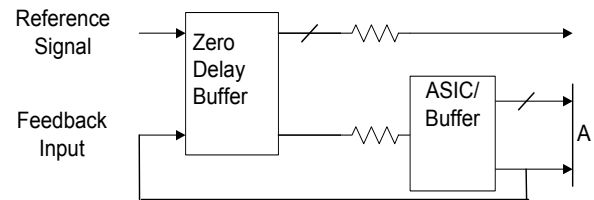

Figure 2. Six Output Buffer in the Feedback Path
Referring to *Figure 2*, if the traces between the ASIC/Buffer and the destination of the clock signal(s) (A) are equal in length